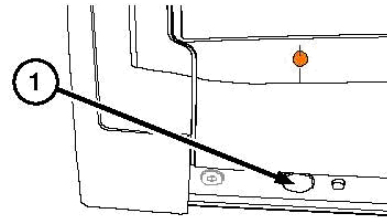

Figure 9 On/Off Button
- Press the on/off button on the computer's lower side, see pos 1 in Figure 9, or
- Press the on/off button on the computer's left side, see pos 1 in Figure 9, or